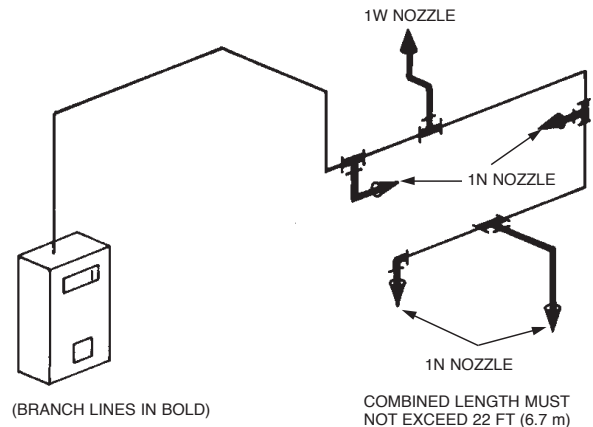

FIGURE 4-133
5. The combined length of all branch lines must not exceed 22 ft (6.7 m). See Figure 4-133.